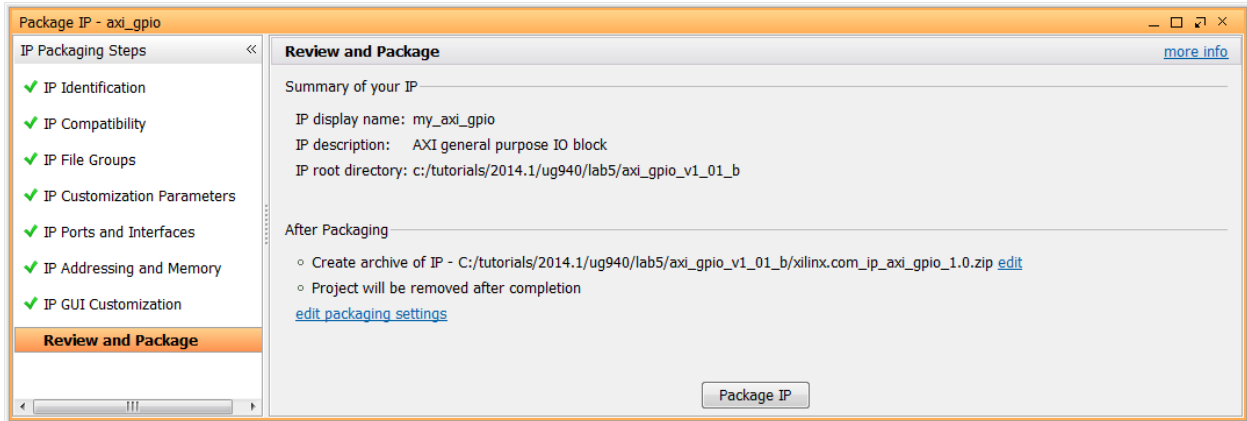

Figure 157: Review and Package IP Page
18. Click **Review and Package** for a summary of the IP (FIGURE 157).